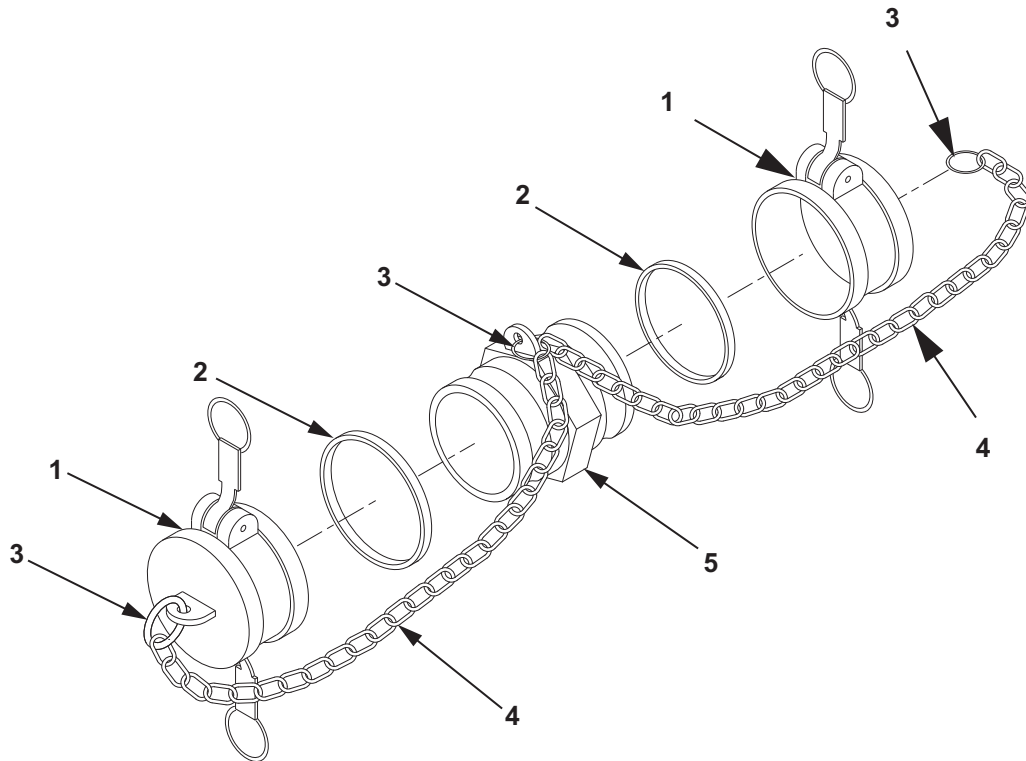

Figure 1. 3 In. Double Male Adapter Disassembly.
1. Disconnect two dust caps (Figure 1, Item 1) from 3 in. double male adapter (Figure 1, Item 5).
2. Remove gasket (Figure 1, Item 2) from two dust caps (Figure 1, Item 1). Discard two gaskets (Figure 1, Item 2).
3. Remove split ring (Figure 1, Item 3) from each dust cap (Figure 1, Item 1) and 3 in. double male adapter (Figure 1, Item 5).
4. Remove split ring (Figure 1, Item 3) from two chains (Figure 1, Item 4).